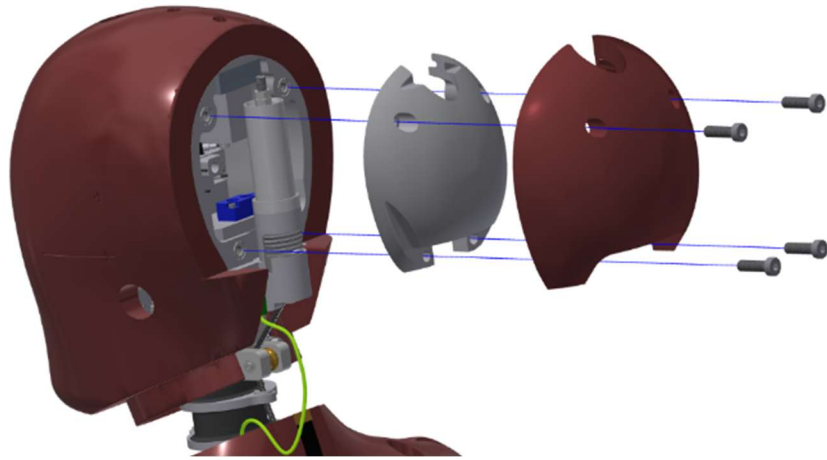

Figure 3-2. Skull, skull cap, and cap skin
- 3.2.1 Remove the skull cap and cap skin (474-1022 and 474-1025) from the skull (474-1010) by removing four M6 X 1 X 20 LG. LHCS from the back of the head (Figure 3-2).